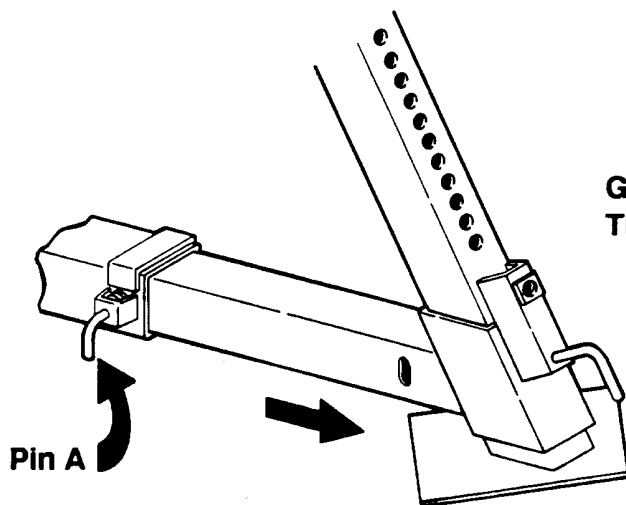

Figure 1-1
1. Disengage pin A and pull the outrigger assembly out until pin A re-engages at the furthest outward outrigger position. Refer to Figure 1-1.
3. On the rear outriggers, disengage pin A and slide the horizontal outrigger out until it locks. Refer to Figure 1-1. Grasp the rear vertical outriggers, disengage pin B and lower to the ground.